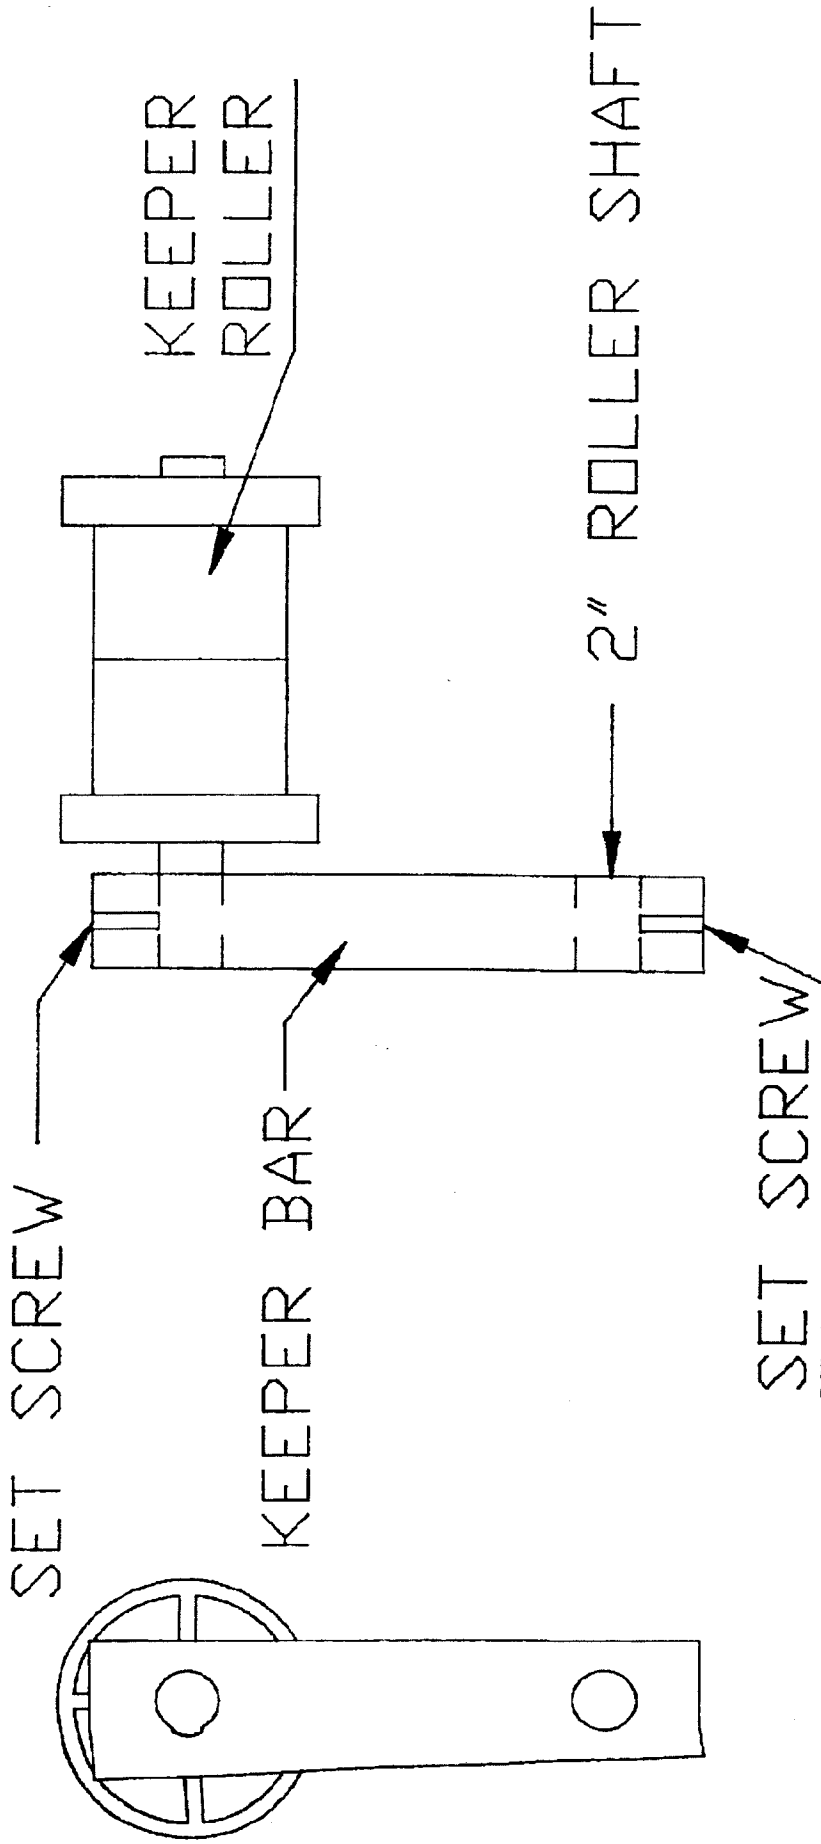

FIGURE 32
2. Figure 32 shows the Keeper Assembly to be added to the 2 inch roller assembly.
2. Figure 32 shows one of the Keeper Assemblies to be added to each of the 2 inch rollers. Note the location of the set screws.